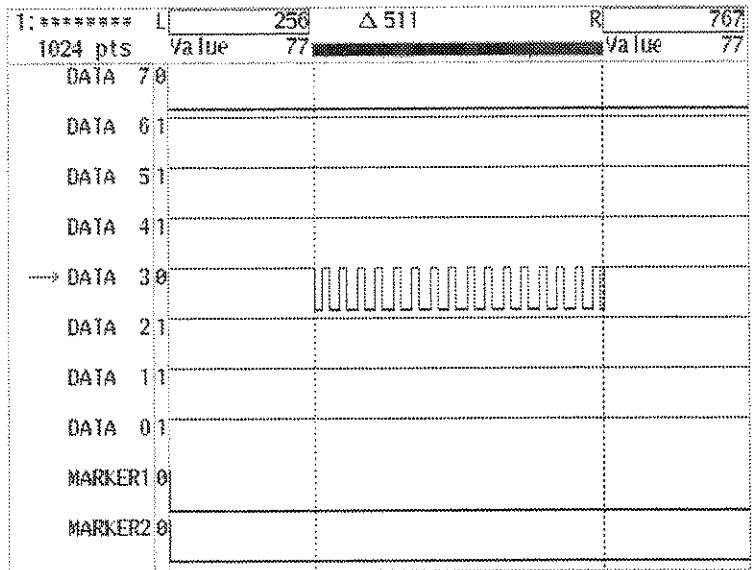

Figure 4A-85: Setting Pattern Data
- Step 13:** Select **O.K.** from the sub-menu. The pattern that you have set in the preceding steps will appear between the vertical bar cursors. See Figure 4A-85.
- Step 2:** Select **User defined Code Config...** from the side menu. See Figure 4A-86.